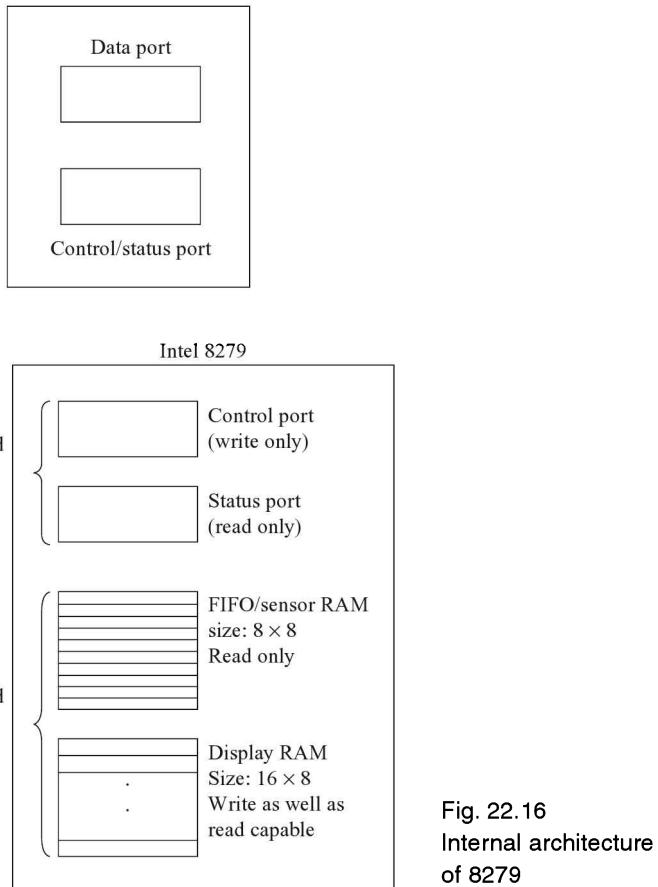

Fig. 22.16
**C/D:** An address input pin. A logic 1 on this pin selects control/status buffer inside the 8279. Logic 0 on this pin selects data buffer inside the 8279. From the viewpoint of the processor, these are the only two buffers inside the 8279. See Fig. 22.16 that provides the internal architecture of 8279.